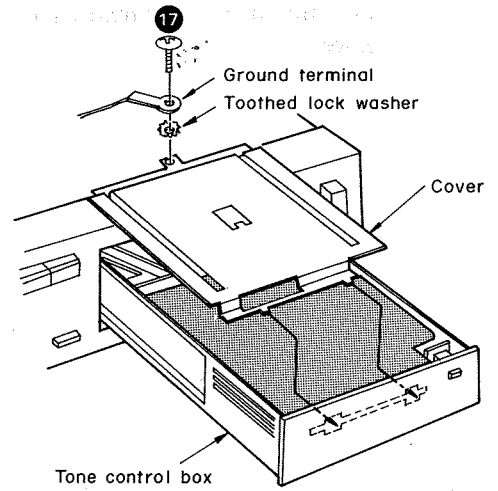

Fig. 14
- (4) Turn over the set and draw out the tone control box as shown in Fig. 14. Then remove setscrew ⑯ to detach the cover.
- *When installing the cover, fit the cover front projection into the front groove of the control box as shown in Fig. 14.